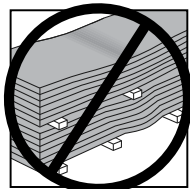

Fig. 2
- Keep stacked in bundles off the ground and supported by stickers spaced no more than 8' apart. Be sure to line up the stickers between bundles with the ground stickers. This will allow for easy forklift access and provide air circulation. Misalignment of the stickers can damage the beams by creating a bow. (Fig. 2)